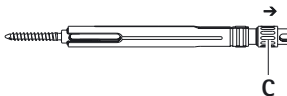

Fig. 6
- Turn fixing screw C in the direction of the arrow until the thread in the direction of the working end becomes visible, see Fig. 6.